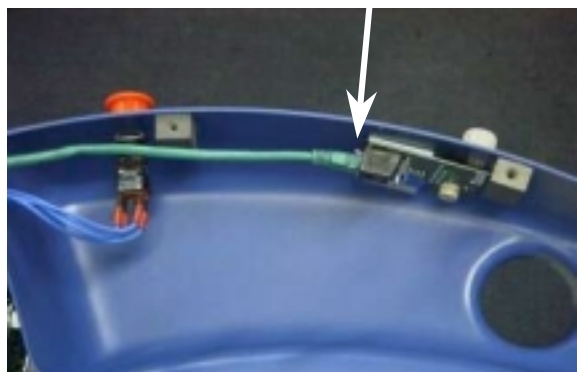

fig. 7
4. Carefully remove the right hand cover from the frame of the machine. Now, a patchcable connected to the controlpanel PCB and the wires from the emergency stop will become visible (see figure 7). Hold the cover with one hand, whilst removing the patchcable and the contactblock from the emergency stop. Push the little pin downward on top of the socket and pull the connector out (see arrow in figure 7).